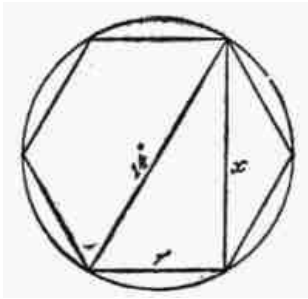

Fig. 238. Problem of the hexagon
Assume that our problem is to find the narrowest board we can use to cut out a hexagon whose diameter is fourteen inches. As shown in Chapter IV, the hexagon is drawn in a circle. One of the sides is equal to the radius or half the diameter. This gives us the arrangement shown in Fig. 238, in which our problem is confined to the right-angled triangle whose base is seven and hypotenuse fourteen. From our knowledge of triangles, we deduct the square of seven (49) from the square of 14 (196), leaving $196 - 49 = 147$, which is the square of [509]